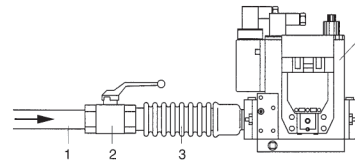

Fig. 2
The connection to the gas feed pipe, whose sizes must correspond to the kind of system to be made, must be carried out by placing the “gas ramp” as indicated in Fig. 2: the gas pipe (1), the interception tap (2) and the anti-vibration joint (3) are not supplied with the heater and they must be arranged by the person in charge of installation.